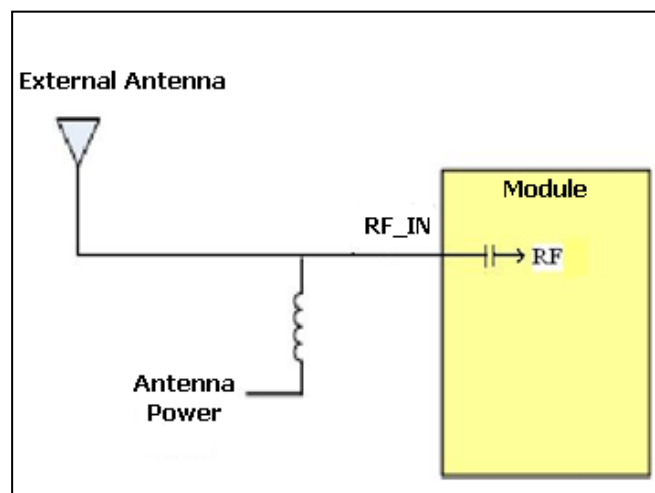

Figure Mode 2 (External chock coil)
- Mode2 (ex. **Gmm-u2p**), the power supply needs to be externally provided and is connected directly to the External Antenna via chock coil. See Figure Mode 2.